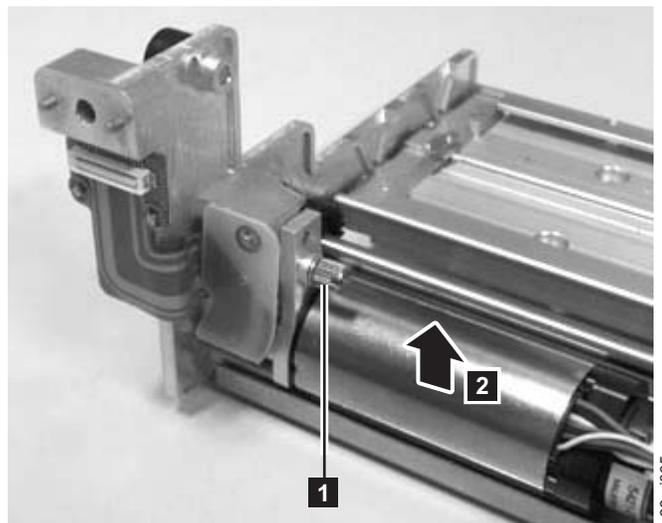

Figure 8-53. Y motor thumb screw
9. Loosen the thumb screw ( **1** in Figure 8-53).
10. Tilt the Y Motor to the left and remove from the Y-axis/Picker Assembly ( **2** in Figure 8-53).